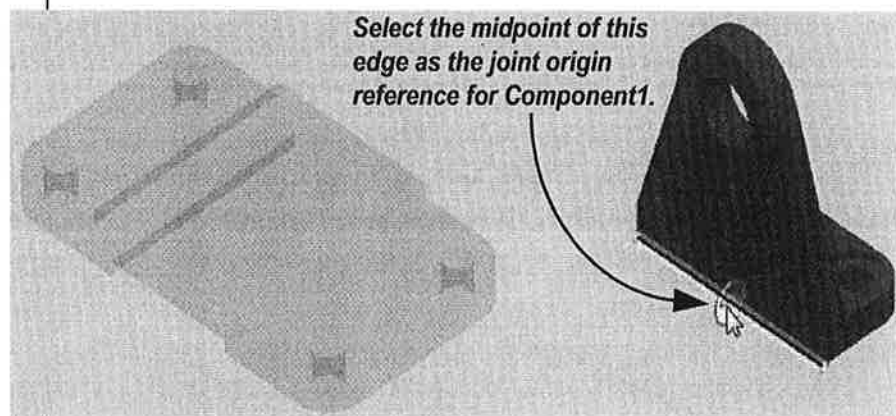

Figure 14-28
8. The *Component1* field is active by default. Hover the cursor over the bottom edge of the Bracket component, as shown in Figure 14-28. Move the cursor and note that even with slight movements, the back face can become active. Ensure that the edge is active and hold <Ctrl>. This locks reference selection to the edge, while still enabling you to move the cursor to activate other snap-points on the edge. Once the midpoint of the edge is active as the joint origin, select it using the left mouse button.